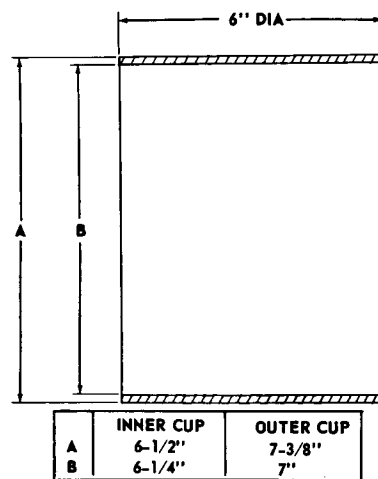

FIG. 145
2. Check bearing bores in wheel hub to be sure all nicks and burrs have been removed from both bores and bearing seats. Install bearing cups in hub with wide diameter of taper toward outside of hub. Use bearing driver to drive cups into place (Fig. 144). Bearing driver dimensions are given in Fig. 145. Make sure bearings are fully seated.